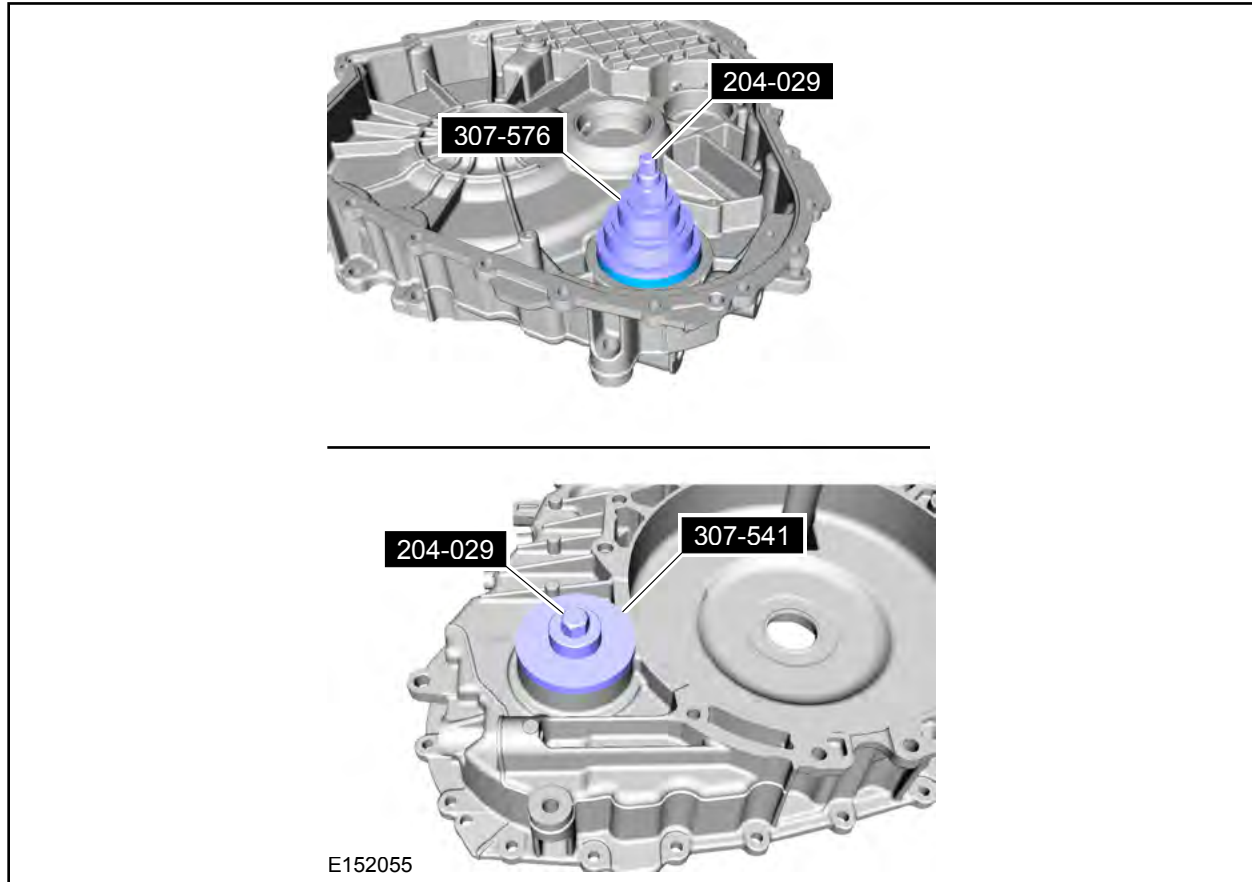

FIGURE 32
27. Using the special tools, install the *new* damper housing side differential bearing cup. See Figure 32.